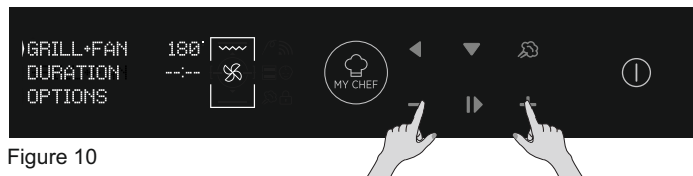

Figure 10
- Press PLUS or MINUS to select the desired temperature in selected function. Press OK to go ahead or BACK to return to the cooking functions selection. (Figure 10)